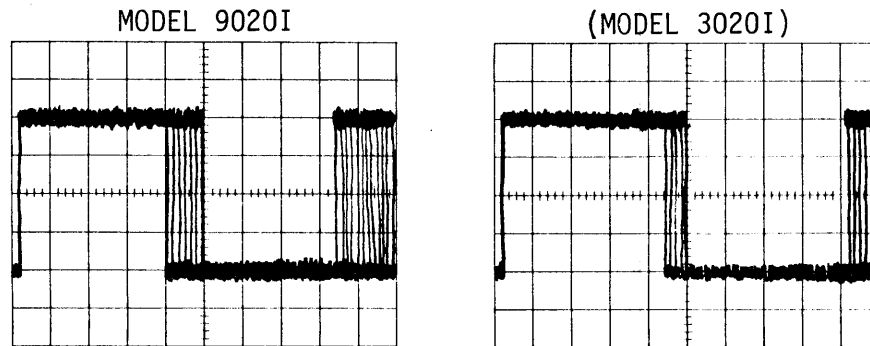

Figure A3-6. Phase Lock Loop Gain
NOTE: Uncalibrate the time base. Vary the time base to display the entire signal, including all the "jitter", on the screen (figure A3-6).
5. Horizontally position the leading edge on the first left hand graticule and verify that the entire signal with all of its "jitter" is displayed (figure A3-6).